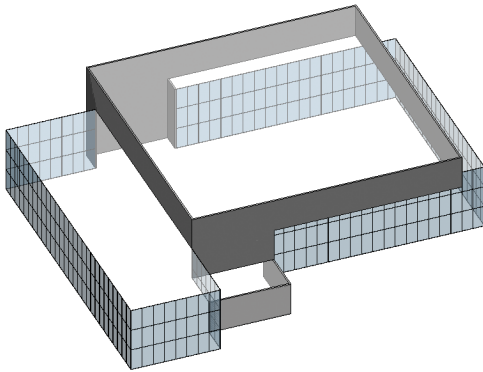

FIGURE 7.11 Curtain systems added to the mass
5. Click the **Create System** button from the ribbon. Click **Esc** to close the tool. Your model should look like Figure 7.11.